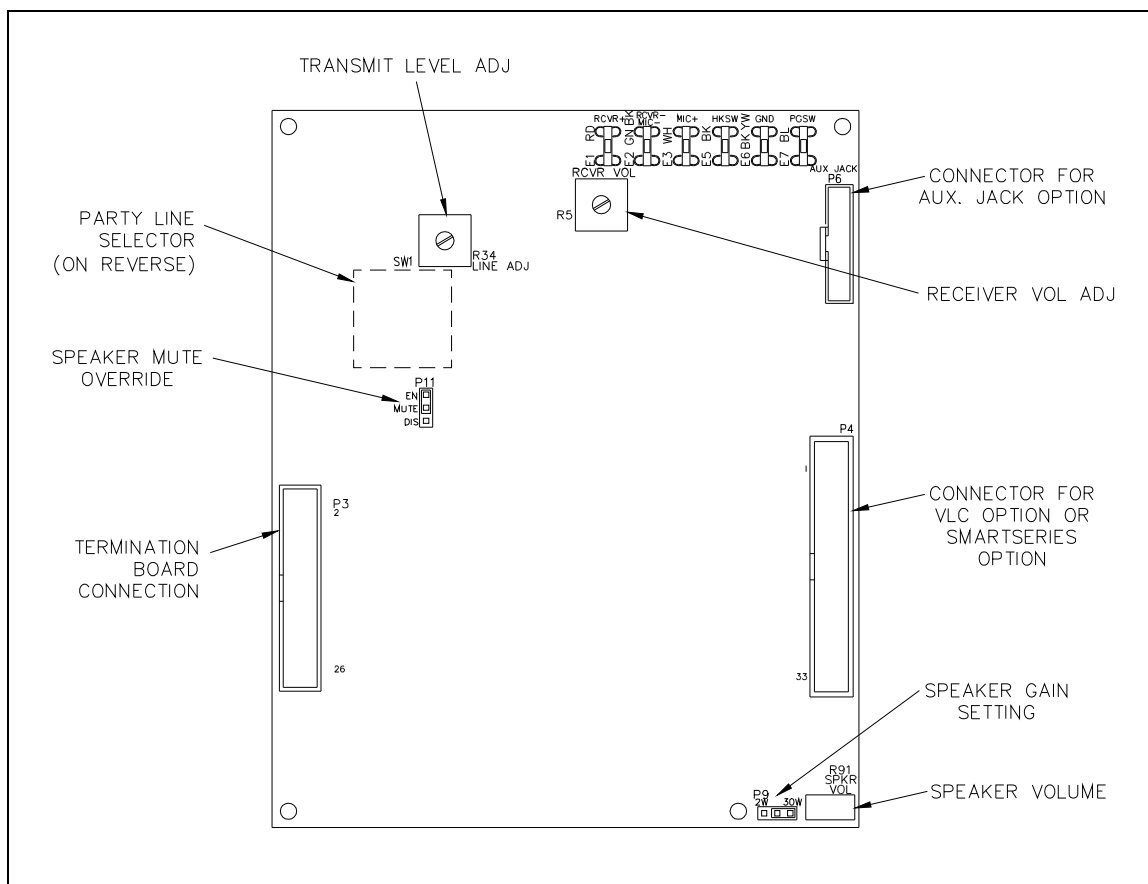

Figure 6. No. 69557 Series Main PCBA
The station can mute the speaker amplifier during page operation to eliminate feedback. Adjust jumper P11, if necessary, to mute the local speaker when paging from that station (see Figure 6).
P9 sets the maximum speaker output level (see Figure 6).
Use the transmit-level potentiometer, R34, to adjust the signal level from the handset or optional auxiliary headset microphone to the page or party lines (see Figure 6).
Use the receiver volume potentiometer, R5, to adjust the signal level to the handset receiver from the page or party lines (see Figure 6). This does not adjust the signal level to the optional auxiliary headset.
Use the speaker volume potentiometer, R91, to adjust the signal level to the speaker from the page line (see Figure 6). The default setting is 4 watts for an 8-ohm speaker and 2 watts for a 16-ohm speaker.
1. Turn the speaker volume potentiometer, R91, (on the main PCBA) fully counterclockwise (see Figure 6).
3. Adjust the speaker volume potentiometer, R91, to the desired output (see Figure 6).
2. Remove all jumpers on the main PCBA P4 connector (see Figure 6).
1. Turn the speaker volume potentiometer, R91, (on the main PCBA) fully clockwise (see Figure 6).